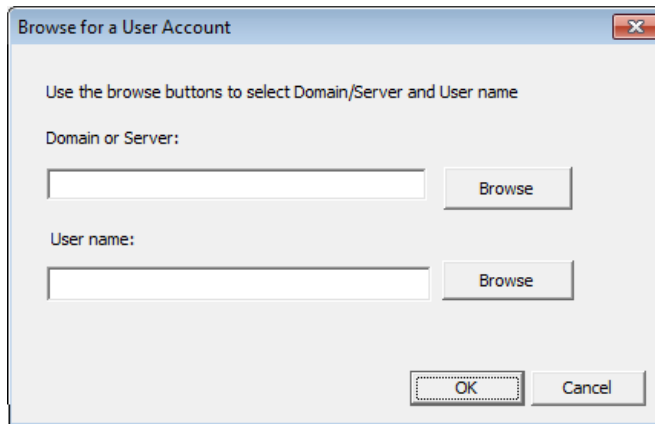

Figure 23. Browse for a User Account Dialog Box
- f. Click **Browse** to launch the Browse for a User Account dialog box shown in Figure 23.